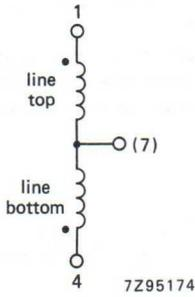

Fig. 2a Line coils.
**Line deflection coils**, series connected (Fig. 2a), terminals 1 and 4